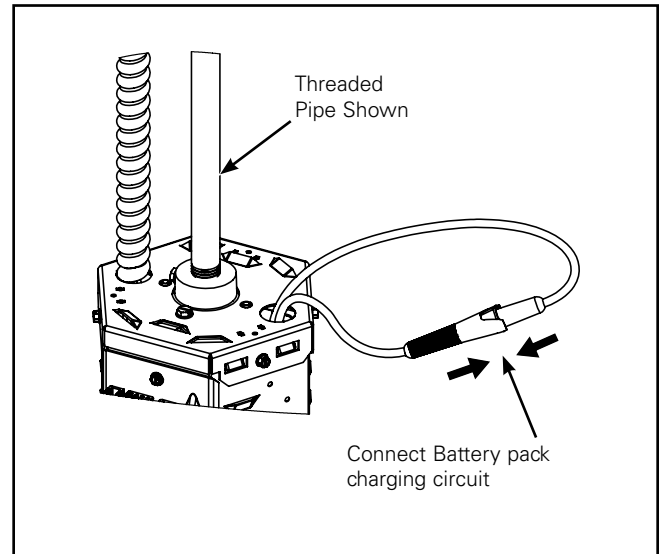

Figure 8.
5. Connect wires coming out of KO hole and push wires back in to fixture. (Figure 8).